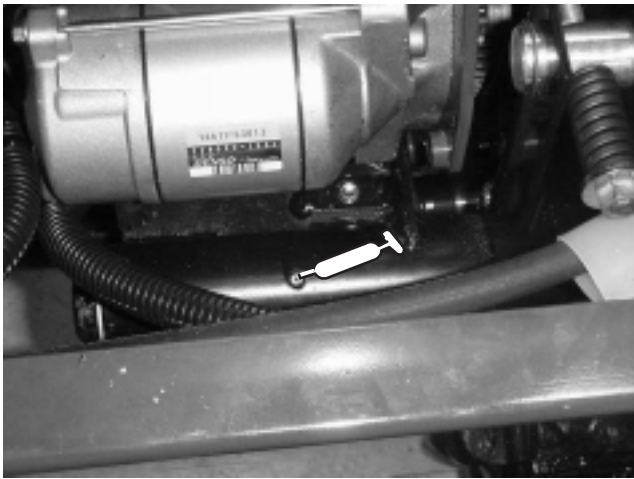

Figure 32
- PTO tension pivot (Fig. 32)
- Rear PTO bearing (Fig. 32).